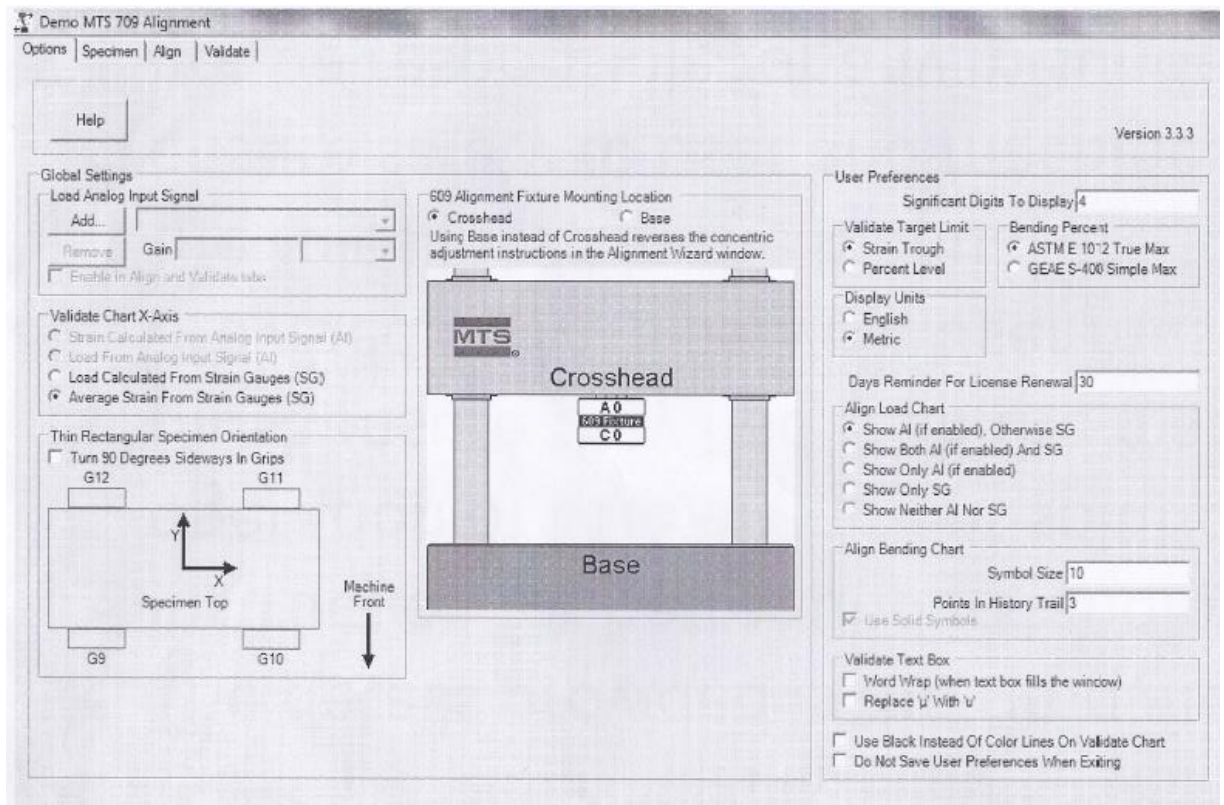

Figure 1: Option Tab Setting
- c) In the Option tab, follow the setting shown in Figure 1.